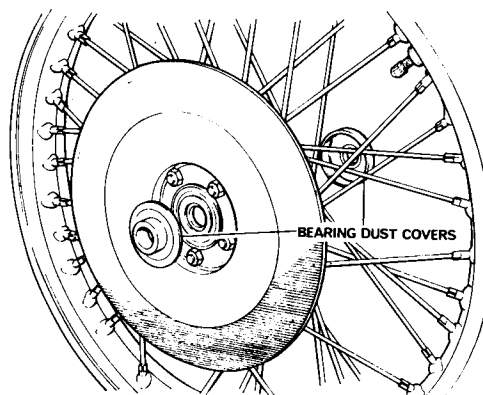

Fig. H8 Disc brake wheel
- 4 Collect the wheel bearing dust covers to prevent loss. (See Fig. H8).